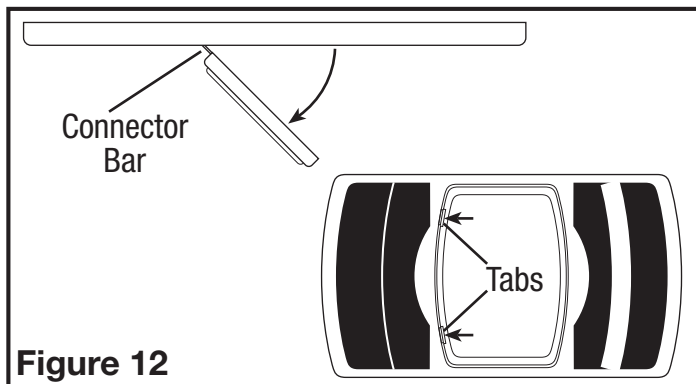

Figure 12
- Remove grill from carton and open light lens area by pushing in on the two tabs of the light lens and pulling outward from lens. The lens will swing open on the connector bars. DO NOT remove the lens from the grill (**Figure 12**).
- Close the light lens and secure in place by swinging back into position and snapping the tabs in place (**Figure 12**).
- Changing the Light Bulb:** Disconnect power to the unit. Open light lens by pushing in on the two tabs of light lens and pulling outward from lens. The lens will swing open on the connector bars. DO NOT remove the lens from the grill (**Figure 12**).